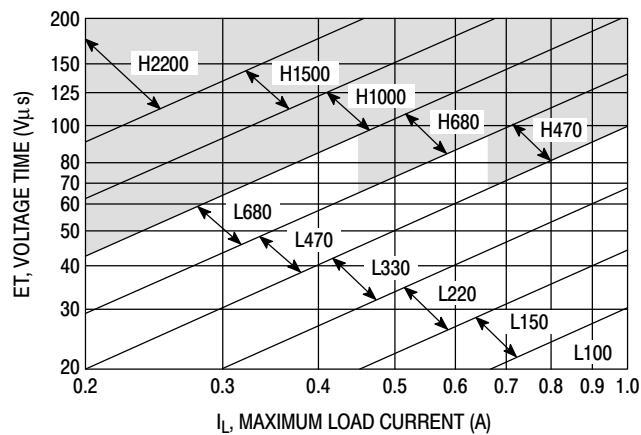

Figure 21. LM2575-Adj
4. Inductor Selection (L1) A. Use the following formula to calculate the inductor Volt x microsecond [V x μs] constant: $E \times T = \left(V_{in} - V_{out} \right) \frac{V_{out}}{V_{on}} \times \frac{10^6}{F[\text{Hz}]} \text{ [V x } \mu\text{s]}$ B. Match the calculated E x T value with the corresponding number on the vertical axis of the Inductor Value Selection Guide shown in Figure 21. This E x T constant is a measure of the energy handling capability of an inductor and is dependent upon the type of core, the core area, the number of turns, and the duty cycle. C. Next step is to identify the inductance region intersected by the E x T value and the maximum load current value on the horizontal axis shown in Figure 21. D. From the inductor code, identify the inductor value. Then select an appropriate inductor from the Table 1 or Table 2. The inductor chosen must be rated for a switching frequency of 52 kHz and for a current rating of $1.15 \times I_{load}$. The inductor current rating can also be determined by calculating the inductor peak current: $I_{p(\text{max})} = I_{Load(\text{max})} + \frac{\left(V_{in} - V_{out} \right) t_{on}}{2L}$ where t_{on} is the "on" time of the power switch and $t_{on} = \frac{V_{out}}{V_{in}} \times \frac{1}{f_{osc}}$ For additional information about the inductor, see the inductor section in the "External Components" section of this data sheet.	4. Inductor Selection (L1) A. Calculate E x T [V x μs] constant: $E \times T = (12 - 8.0) \times \frac{8.0}{12} \times \frac{1000}{52} = 51 \text{ [V x } \mu\text{s]}$ B. E x T = 51 [V x μs] C. $I_{Load(\text{max})} = 1.0 \text{ A}$ Inductance Region = L220 D. Proper inductor value = 220 μH Choose the inductor from the Table 1 or Table 2.